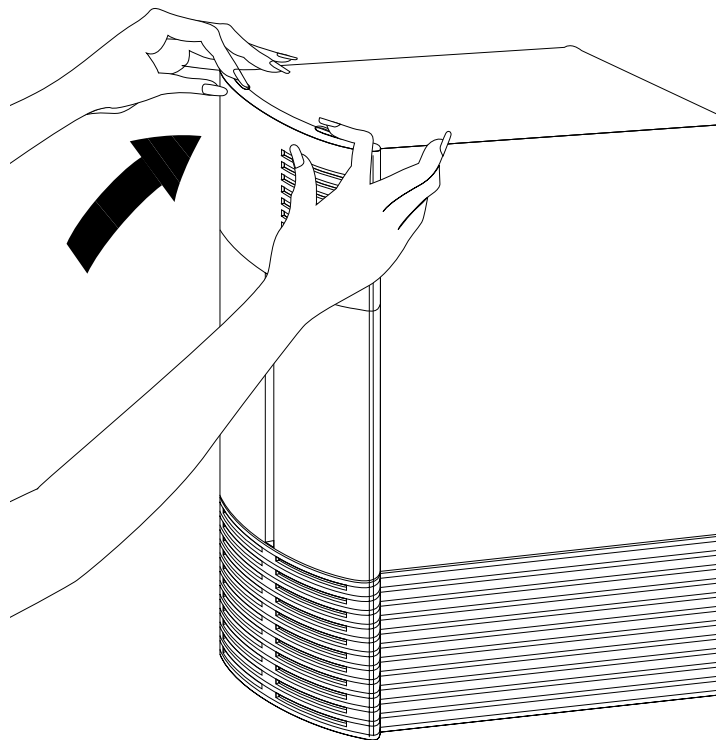

Figure 2-8 Replacing the Front Cover of the IRIS Indigo Workstation
- Tilt the cover up to the chassis, as shown in Figure 2-8. The cover snaps in place.